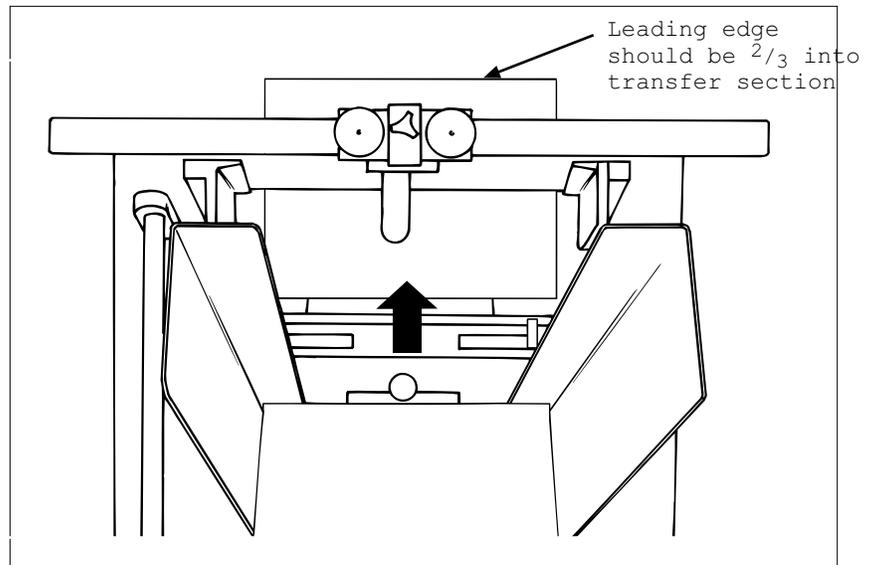

Figure 2-6. Checking for Proper Material Discharge from Feeder to Vacuum Base
2. Insert a piece of material under the hold-down bearings in such a way that approximately 2/3 of the leading edge is extending out beyond the feeder (Figure 2-6).